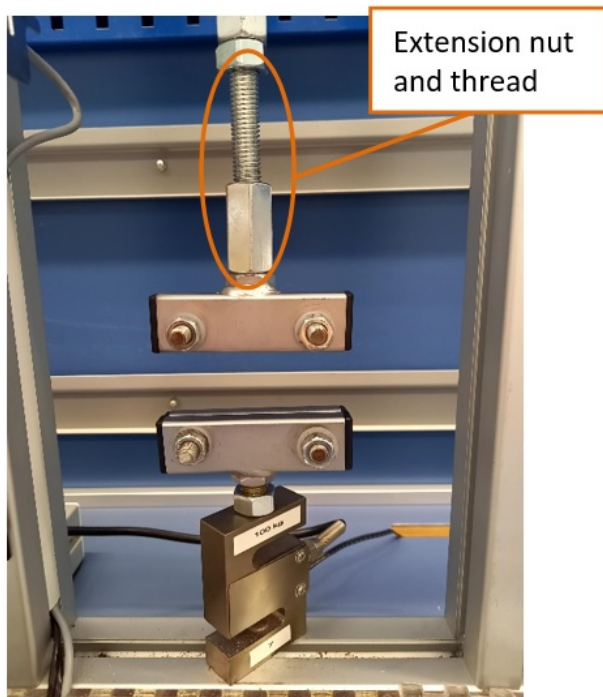

Figure 4: Tensile Test for small samples
b. In the **tensile test setup for small samples**, add the extension nut and thread to the tensile clamps, align the clamps such that the sample will be straight, fixate the clamps hand tight using the fixation nuts, make sure that the M8 nuts are on the front to change samples easily, see figure 4.